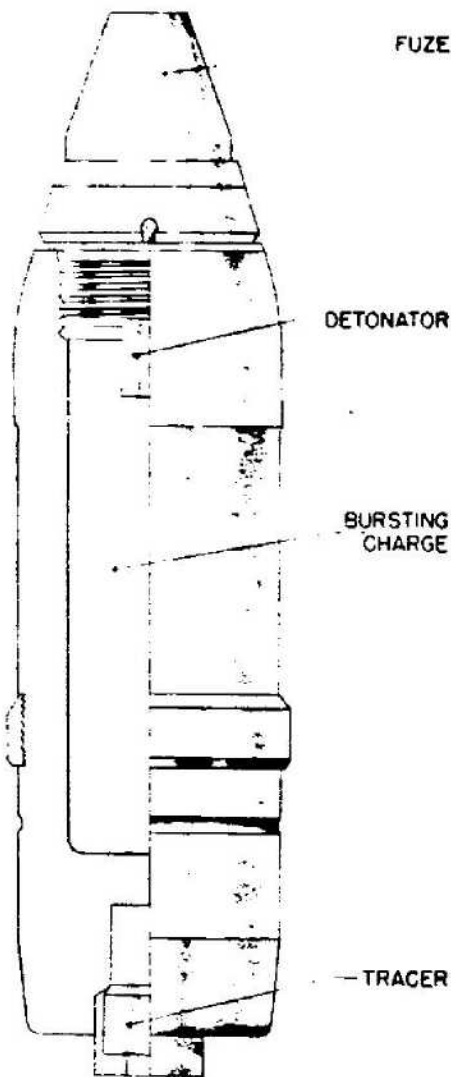

Figure 356—H. E. Projectile (Type 40) for A. T. Gun, 37-mm, 3.7-cm Sprgr. Patr. 40
**GERMAN NOMENCLATURE:** 3.7-cm Sprgr. Patr. 40 (Sprenggranate Patronen 40). (See fig. 356.)